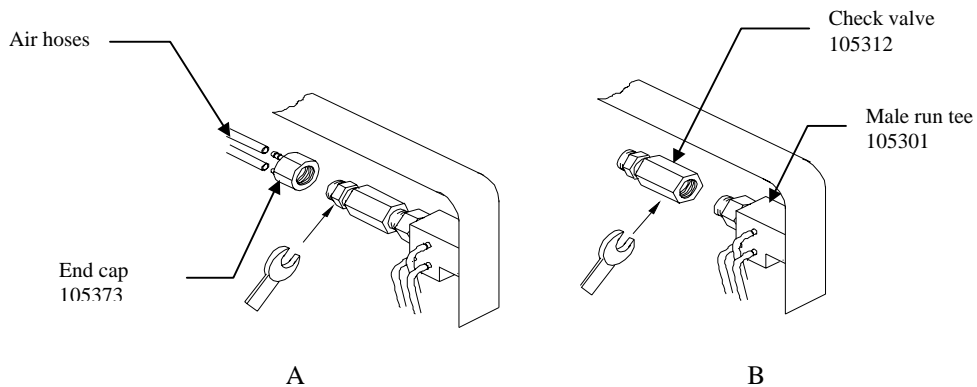

Figure 8
When unscrewing the end cap, a wrench must be placed on the outer portion of the check valve to keep it from rotating (figure 8, view A).
- To unscrew the check valve, place a wrench on the inner portion of the valve and rotate it (figure 8, view B).
- To install the new check valve, clean threads on the male run tee. Apply a small amount of “Loctite ®” on the thread. Install the check valve, place the wrench on the inner portion of the valve and rotate (figure 8, view B).
- Apply a small amount of “Loctite ®” to the threads on the check valve. Place a wrench on the outer portion of the valve, hold the valve and screw on the end cap (figure 8, view A).